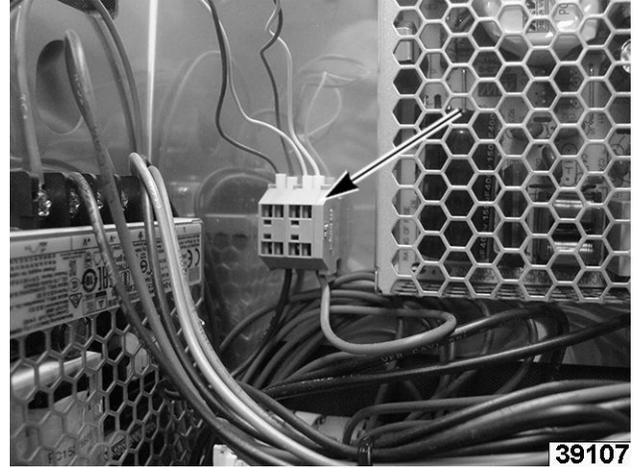

Fig. 21
4. Disconnect door wiring behind I/O board (Fig. 21) and across top of oven under top panel. Lay wires on right side of unit by door.